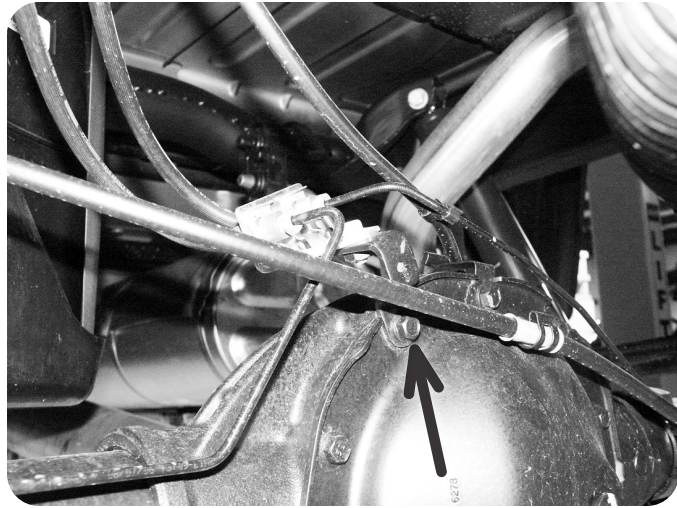

Figure 21
4. Disconnect the rear brake line bracket from the top of the differential **Figure 21**. Save hardware.